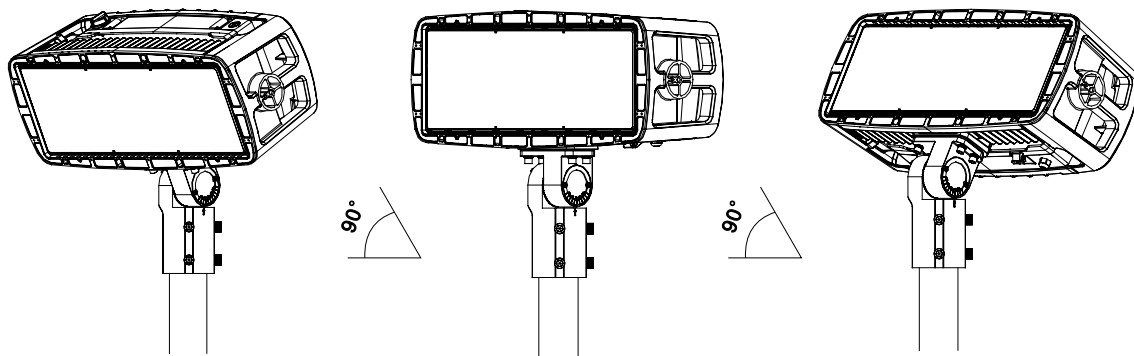

Figure 10
- Use an open-end wrench and hex wrench to loosen the screw for adjusting the angle (Figure 10). Note: The adjustable angle is 0-90°.